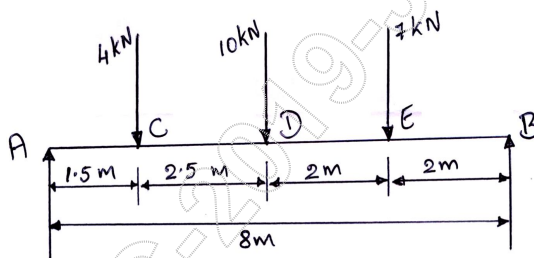

Fig.Q.5(b)
- b. A simply supported beam AB of span 8 meters carrying concentrated loads of 4kN, 10kN and 7kN at distances of 1.5m, 4m and 6m from the left support. Draw the SFD and BMD for the Fig.Q.5(b) (10 Marks)